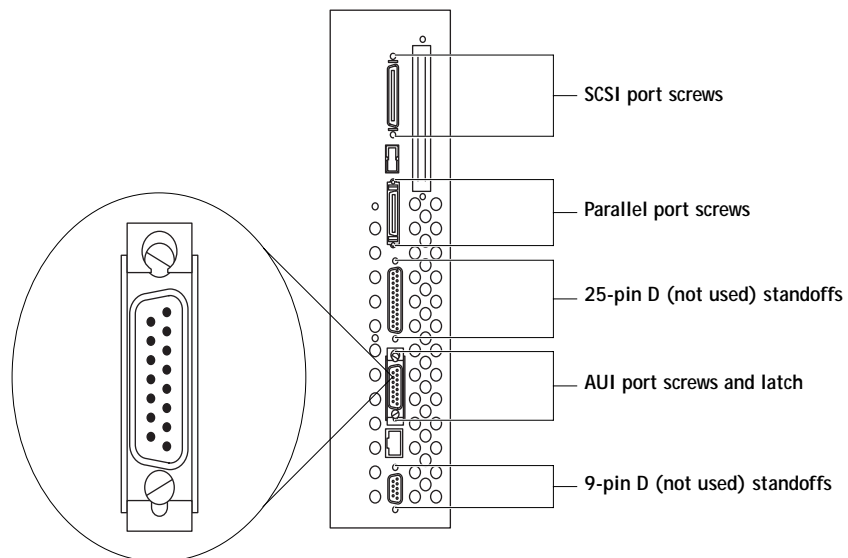

FIGURE 4-6 External connector hardware on E-300 pan
8. Remove and set aside the screws (and washers, if present), standoffs, and AUI latch that attach the external connectors to the pan (see Figure 4-6).
4. Insert the screws (and washers, if present), standoffs, and AUI latch that attach the external connectors to the pan (see Figure 4-6 on page 4-10).
For the AUI latch, use a small flat-blade screwdriver to install the screws. Orient the AUI latch according to Figure 4-6 on page 4-10. Install one screw almost completely, place the latch over the connector, then install the second screw.